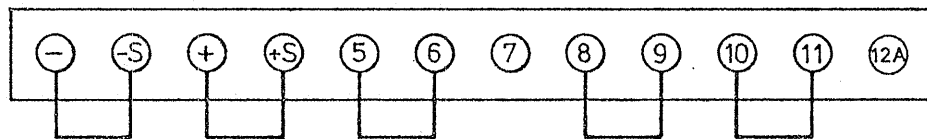

Figure 2-1
- o Make it sure that the jumpers of the terminal block on the rear panel are securely connected as shown in Figure 2-1.